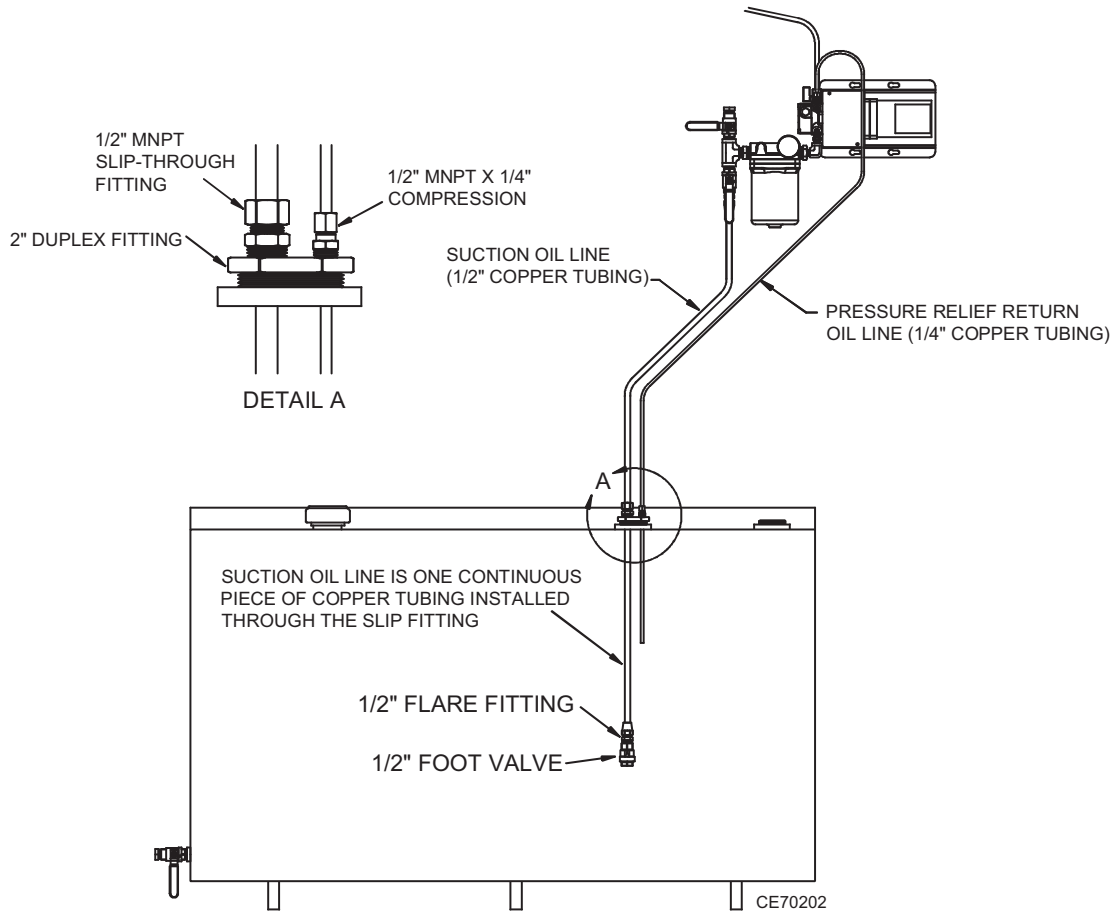

Figure 19: Installing the Suction Oil Line
- (1) Refer to Figure 19.
- (2) Measure the height of the tank. Reduce this measurement by 12" and mark the 1/2" copper suction line tubing at this length (connecting the flare fitting and foot valve will put the bottom of the suction line at the recommended 8" from the bottom of the tank).
- (3) Install the 1/2" MNPT slip-through fitting into the side of the 2" duplex fitting marked "S".
- (4) Slide the 1/2" copper suction line tubing through the slip fitting in the 2" duplex fitting up until the mark that was made indicating 12" less than the height of the tank.
- (5) Install the 1/2" flare fitting into the foot valve (arrow on foot valve pointing toward the flare).
- (6) Flare the 1/2" copper suction line tubing and install it on the foot valve.
- (7) Insert the suction tubing into the tank and tighten the 2" duplex fitting.
- (8) Carefully bend the 1/2" copper suction line tubing up to the filter and cut it to length.
- (9) Flare the 1/2" copper suction line tubing and install it on the filter.
- (1) Refer to Figure 19 and 20.
- (2) Install the 1/2" MNPTx1/4" compression fitting into the side of the 2" duplex fitting marked "R".
- (3) Run a piece of 1/4" copper tubing from the pump relief valve back to the tank.